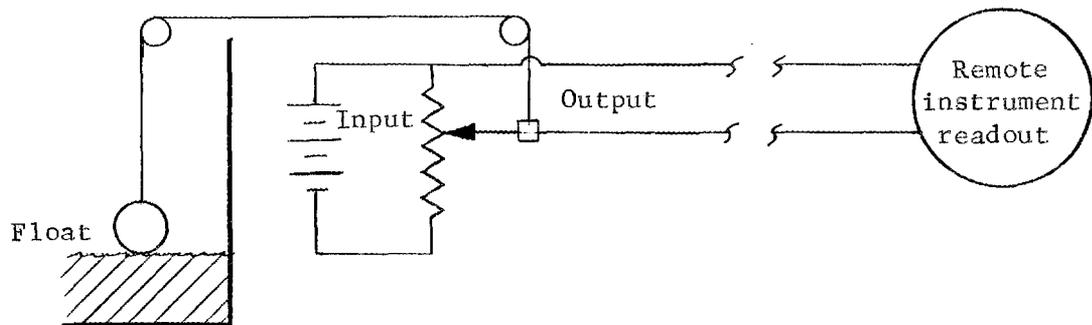

Fig. V-68. Simplified Liquid Level Instrument with Remote Readout
91. Now attach the potentiometer to the float mechanism so that the float moves the sliding contact of the _____. Figure V-68 is a simplified drawing of how this could be done.
92. In looking at Figure V-68 you will note that as the liquid level decreases the voltage output from the potentiometer also _____.